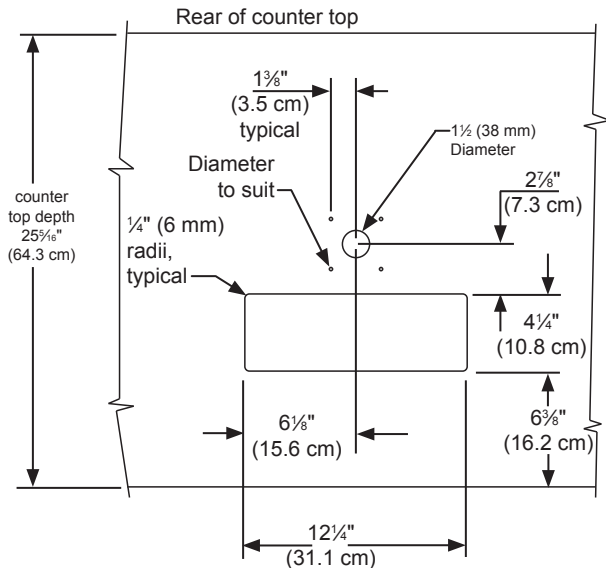

Figure 39
The cutout dimensions shown in Figure 39 are based on a 25⁵/₁₆" (64.3 cm) deep counter top. Your counter top may be different than this and require other front to back dimensioning. Refer to the product dimensions on pages 6 and 7 when determining the required dimensions.
- If you are installing your keg refrigerator under a counter you will need to drill 5 holes in the counter top to mount the tower. The first hole is a 1¹/₂" diameter hole located at the center of the tower for the beer line, locate approximately 13¹/₂" (34.3 cm) from the front edge of the counter top (based on a counter top depth of 25⁵/₁₆"). Next drill the 4 tower mounting holes per the dimensions in Figure 39. The hole diameter is dependent on the counter top material and if screw anchors are required. The screws supplied are in the literature pack and are a #10 x 1" type AB stainless steel screw. Mark and cut the rectangular cutout for the drain sump. After the holes are drilled and the keg refrigerator is in place under the counter top feed the beer line through the tower gasket, the 1¹/₂" hole in the counter top and the hole in the top of the keg refrigerator. Mount the tower to the counter top with the 4 screws provided. Place the counter top drain sump, from the literature pack, in the rectangular hole with the radius cutout to the rear around the tower and place the grate in the sump.